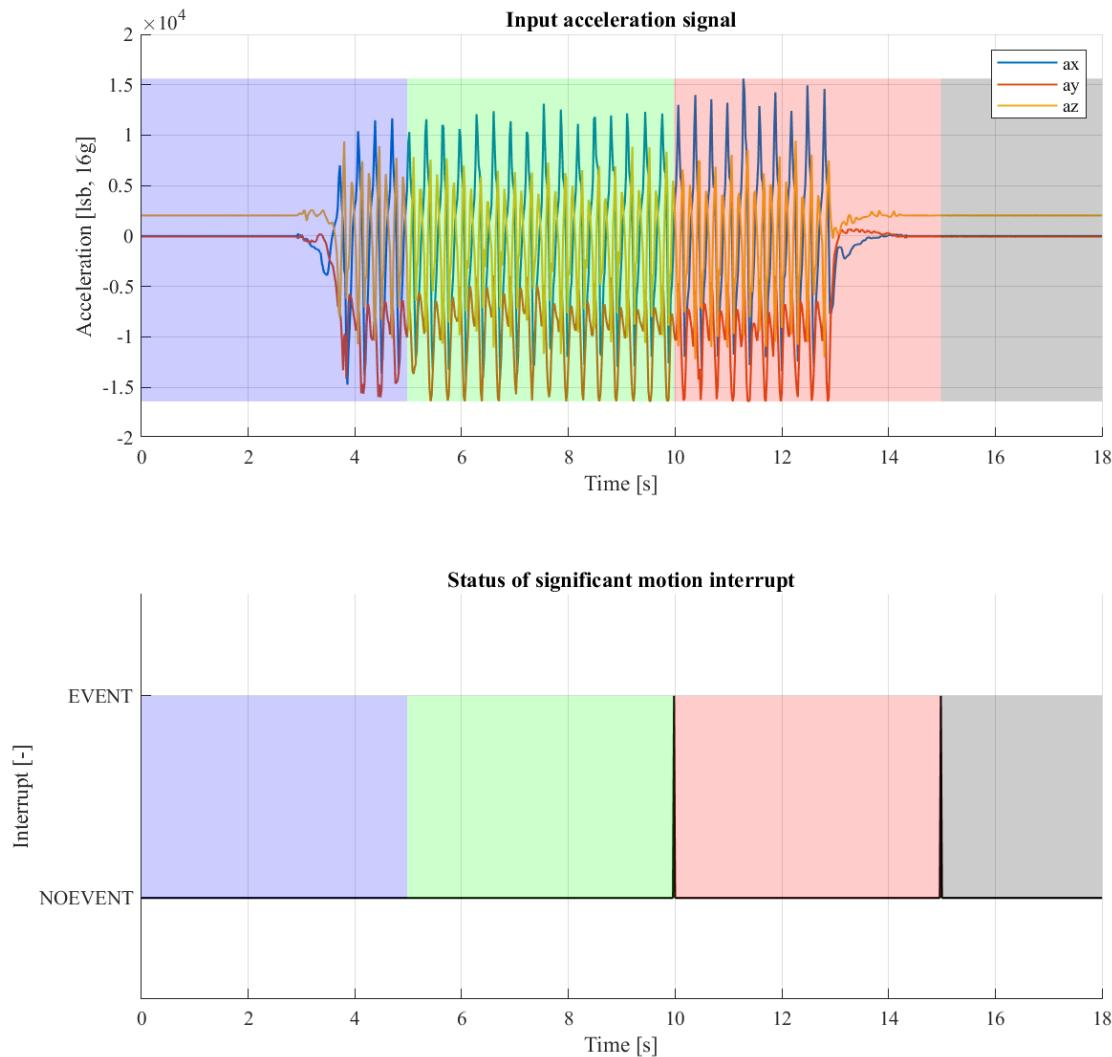

Figure 12 : Significant motion interrupt detection behavior for walking use-case
**Example** An example for the behavior of the significant motion detection for a walking scenario is depicted in Fig. 12, where EXT.SIGMO\_1.block\_size is set to 5 seconds (0x00FA).